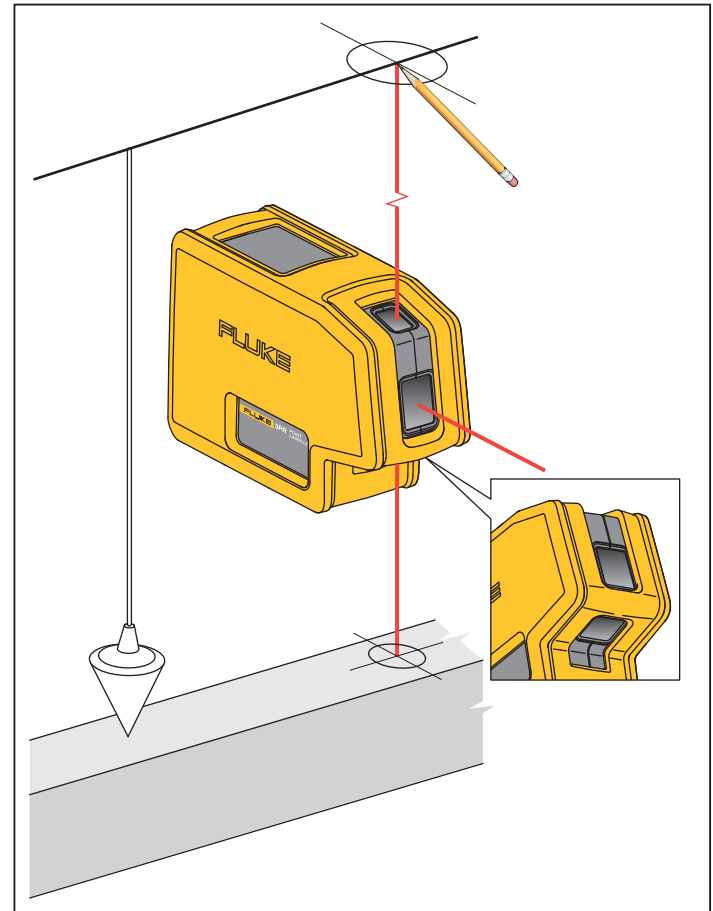

Figure 3. New Plumb Mark
2. Center the down laser over the cross mark. See Figure 3.